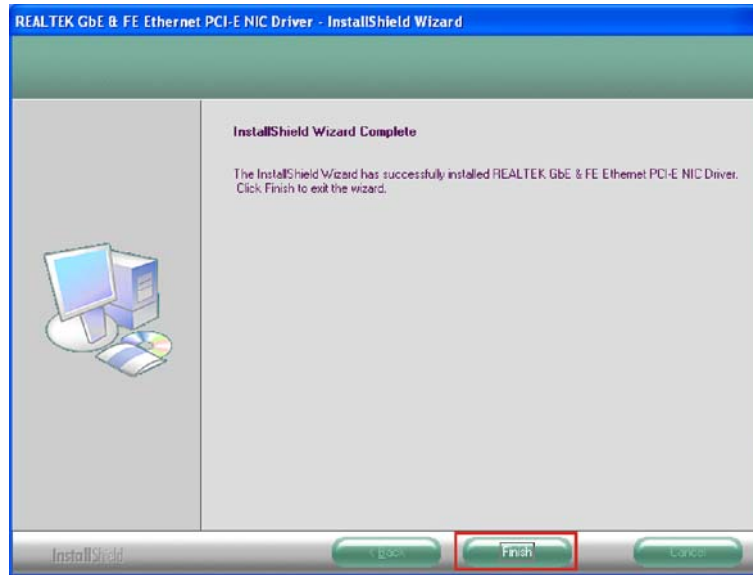

Figure 7-19: LAN Driver Installation Complete
Step 9: When the driver installation is complete, the screen in **Figure 7-19** appears.
Step 10: Click **FINISH** to exit the InstallShield Wizard (Figure 7-19).